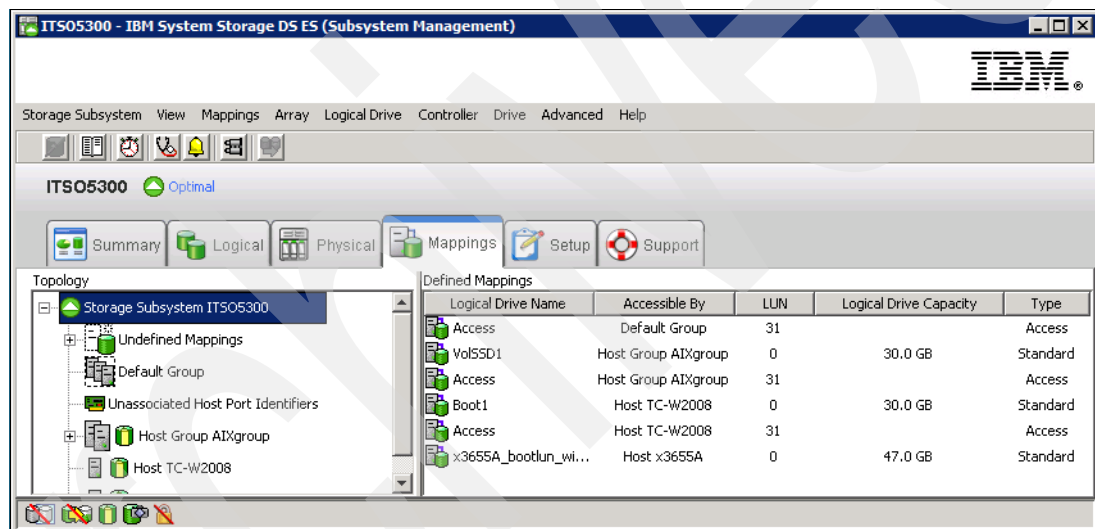

Figure 3-12 Mappings View
- All information, such as host ports and logical drive mappings, is shown and configured in the **Mappings View**. The right side of the window lists all mappings that are owned by the object you choose in the left side, as shown in Figure 3-12.